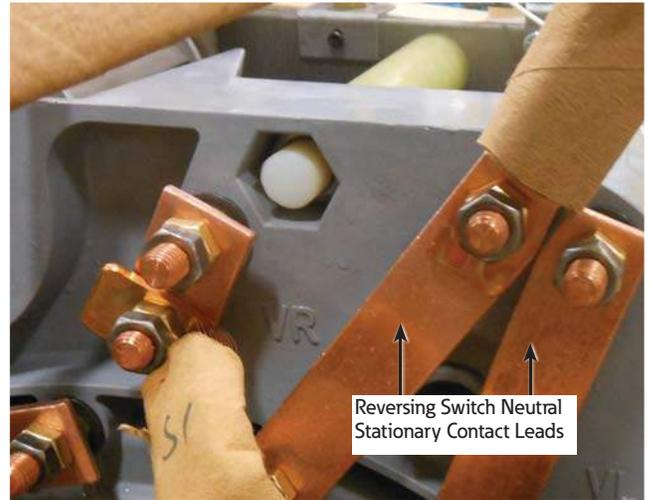

Figure 34. Loose logic switches
- On the back side of the tap-changer contact board, carefully mark the reversing switch leads; photos can be helpful to assist in remembering the arrangement of the connections. See Figure 34.
- Using a 3/4" wrench, remove the nuts and jam nuts holding the leads and copper bars connected to the reversing switch neutral stationary contact and remove the connections. See Figure 34.